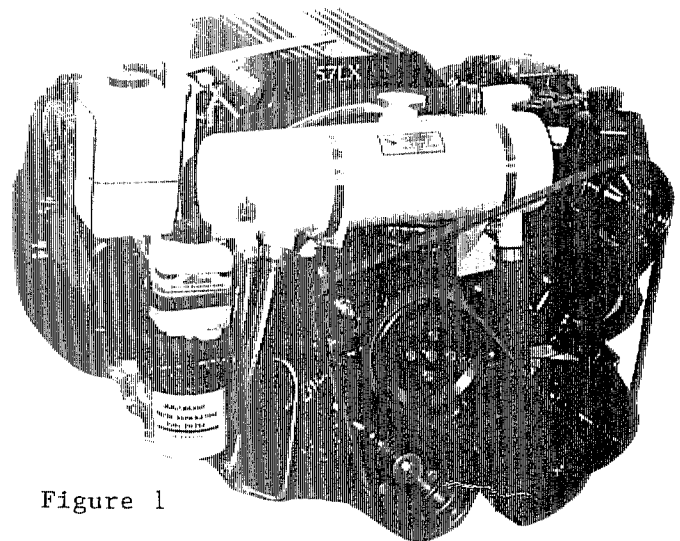
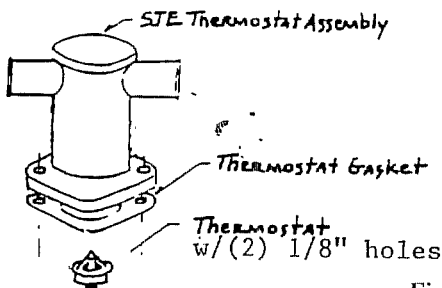

Figure 1
Figure 2
3. Locate original thermostat housing assembly at top, front, center of engine (Figure 1). Disconnect wire connected to the high water temperature alarm sending unit and the wire connected to the water temperature sending unit. Be sure wires are re-connected to the same sending units.
5. Remove thermostat housing assembly from engine by taking out the (2) 9/16" head bolts at back end of housing. Carefully remove high water temperature alarm sender and water temperature sender from housing. These will be used later. Discard original thermostat housing, thermostat, and lifting strap and bolts. You will replace these with new parts from your SJE kit.
6. Remove 1/2" pipe plug from the intake manifold, located slightly forward and to the left of the thermostat (figure 2). Use the 3/8" X 1/2" NPT adapter provided. Thread the 3/8" X 1-1/2" nipple, 3/8" Cross and 3/8" NPT X 5/8" hose, 90 degree fitting together. Remove 1/2" pipe plug located on left hand side of the fresh water pump, just above the 1-3/4" suction hose. Thread the brass 1/2" NPT to 5/8" hose fitting into this hole. Tighten firmly. Plumb the 5/8" X 15" hose and (2) #8 hose clamps between fittings. Thread the two sending units into 3/8" Cross. Connect wires.
7. Clean thermostat housing gasket surface on the intake manifold. Insert new SJE thermostat, with (2) 1/8" holes, pointed end up (figure 2). Position new thermostat gasket, between thermostat and thermostat housing. Secure thermostat housing with the (2) 3/8" X 7/8" bolts and lock washers. Tighten the two bolts firmly and evenly.